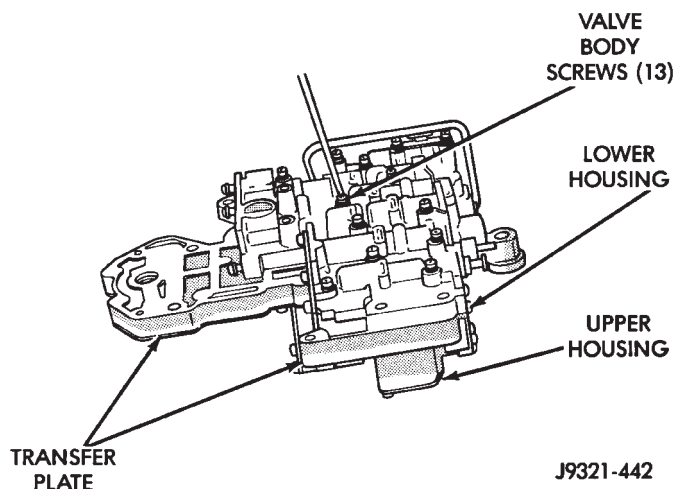

Fig. 132 Installing Lower Housing On Transfer Plate And Upper Housing
- (4) Install lower housing on assembled transfer plate and upper housing (Fig. 132).
- (5) Install and start valve body screws by hand.
Then tighten screws evenly to 4 N•m (35 in. lbs.) torque. Start at center and work out to sides when tightening screws (Fig. 132).